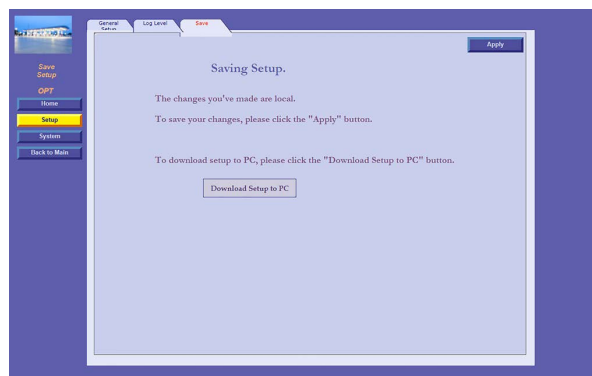

Figure 5-39 - Save Tab
1. Click on the **Save** tab. The following screen appears (see Figure 5-39):